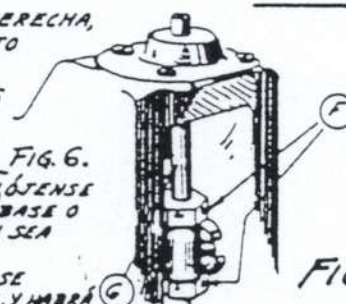

FIG. 7
PARA AJUSTAR ESTA DIMENSIÓN AFLÓJENSE LOS TORNILLOS (F) EN LA FIG. 7, Y SÚBASE O BÁJESE EL PORTAAGUJA (G) SEGÚN SEA CONVENIENTE.
AJUSTE DE LA FIG. 7,